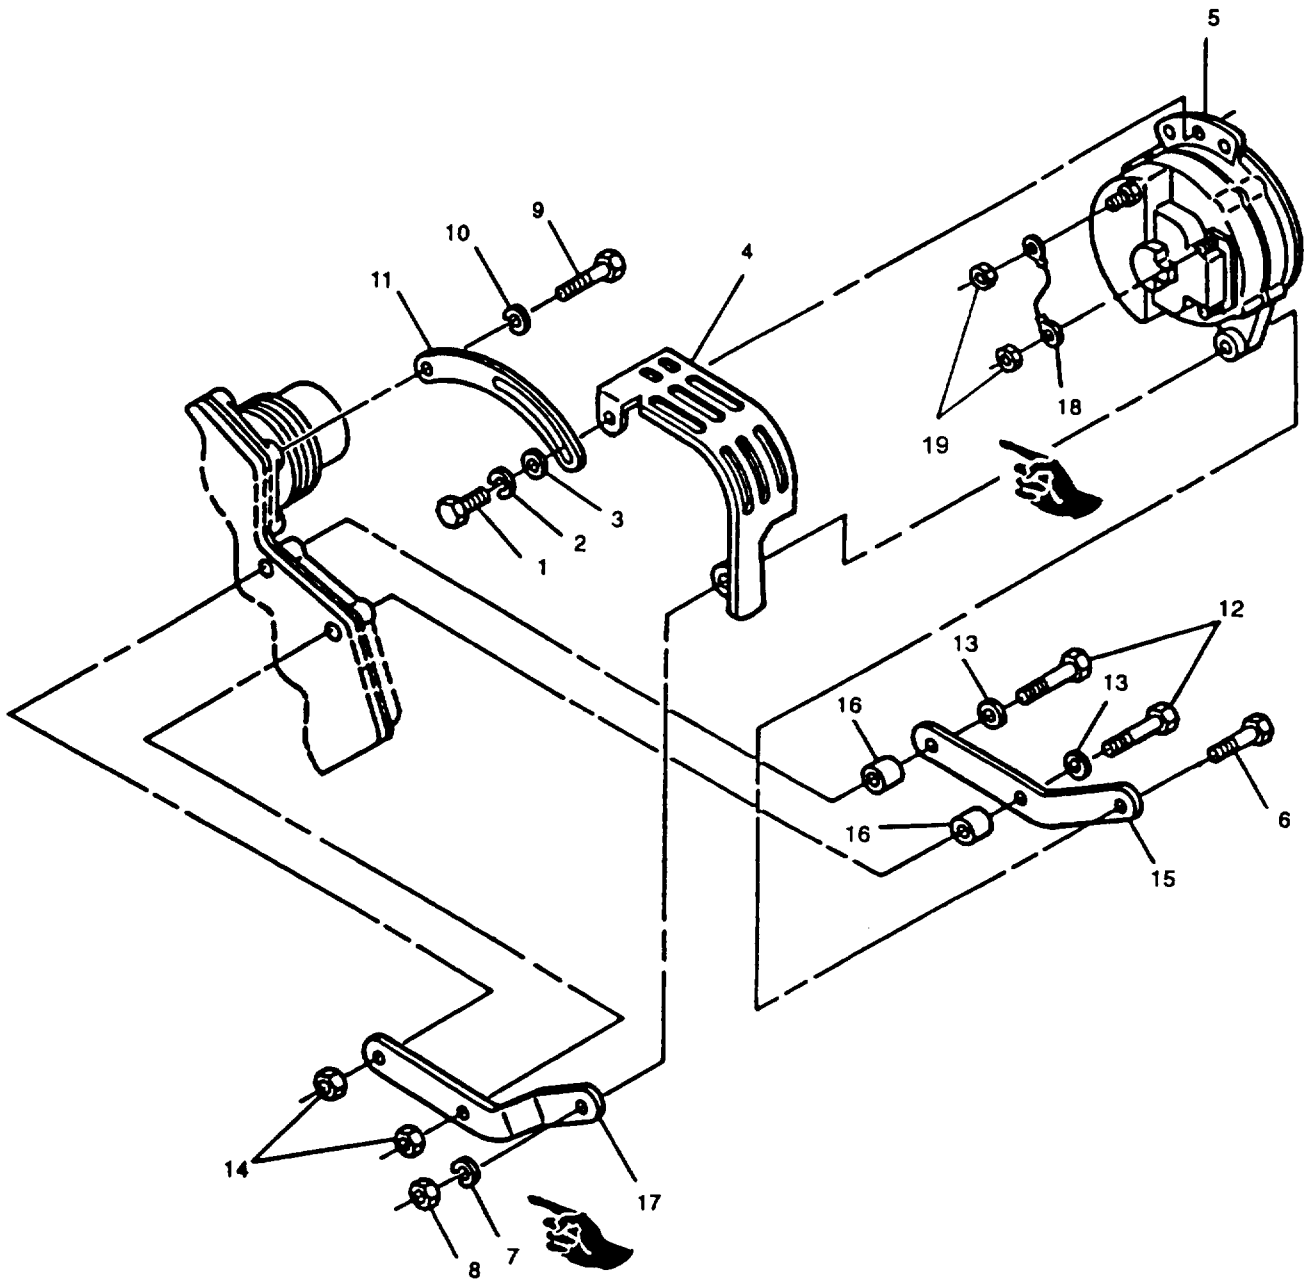

FIGURE 3-5. Battery Charging Alternator and Mounting Brackets
- c. Remove capscrew (1, FIGURE 3-5), lockwasher (2), and washer (3); securing bracket (4) and battery charging alternator (5). Discard lockwasher (2).
- d. Support weight of battery charging alternator and remove capscrew (6), lockwasher (7), and nut (8); securing bracket (4) and alternator (5). Remove bracket (4) and alternator (5). Discard lockwasher (7).
- e. If necessary, remove capscrew (9) and lockwasher (10) securing adjusting strap (11) to water pump mounting hole. Remove adjusting strap. Discard lockwasher (10).
- f. If necessary, remove two capscrews (12), washers (13), spacers (16), and nuts (14) securing mounting brackets (15 and 17). Remove brackets (15 and 17).
- g. If necessary, loosen and remove nuts (19) from terminals POS plus OUTPUT and SEN. Remove jumper wire (18).
- g. If damaged, replace retainer (21) in rear housing (20).
- h. Position rear housing (20) over slip rings of rotor assembly (29) with front and rear housing bolt holes aligned and stator leads extending through openings at top of rear housing (20).
- i. Install through bolts (19) and tighten evenly 50 to 60 in-lbs (5.65 to 6.78 Nm).
- j. If necessary, remove through bolts (19) and rotate rear housing (20) and stator (22) to align housings as match marked on disassembly. Reinstall bolts and torque evenly 50 to 60 in-lbs (5.65 to 6.78 Nm).
- k. Insert strap (14) of rectifier bridge (18) through slot in diode-trio (17) body. Bend strap (14) over B+ terminal and secure with cone washer (13) and nut (12).
- l. Apply thin film of heat sink compound (5202217) to back of rectifier bridge (18) and mating area of rear housing (20)
- m. Install diode-trio (17) and rectifier bridge (18) on rear housing (20) with bolts (16) and connect stator leads with screws (15). Remove tags.
- n. Install voltage regulator (11) to rear housing (20) with insulating washers (10) and bolts (9).
- o. Install brush assembly (8) and strap (7) with washer (32) and nuts (6).
- p. Position felt gasket (5) in back cover (4) and install back cover on rear housing (20) with bolts (3).
- q. Install terminal washers (2), terminal nuts (1), and jumper (18, FIGURE 3-5).
- (1) Mount battery charging alternator on test fixture capable of providing 5000 alternator rpm.
- a. If removed, install jumper wire (18, FIGURE 3-5) and nuts (19).
- b. If removed, position mounting brackets (15 and 17) on timing gear cover mounting holes; secure with two capscrews (12), washers (13), spacers (16), and nuts (14).
- c. If removed, position adjusting strap (11) on water pump mounting hole; secure with capscrew (9) and new lockwasher (10).
- d. Position battery charging alternator (5) and bracket (4) between mounting brackets (15 and 17) and secure with capscrew (6), new lockwasher (7), and nut (8). Do not tighten.
- e. Secure battery charging alternator (5) and bracket (4) to adjusting strap (11) with capscrew (1), new lockwasher (2), and washer (3). Do not tighten.